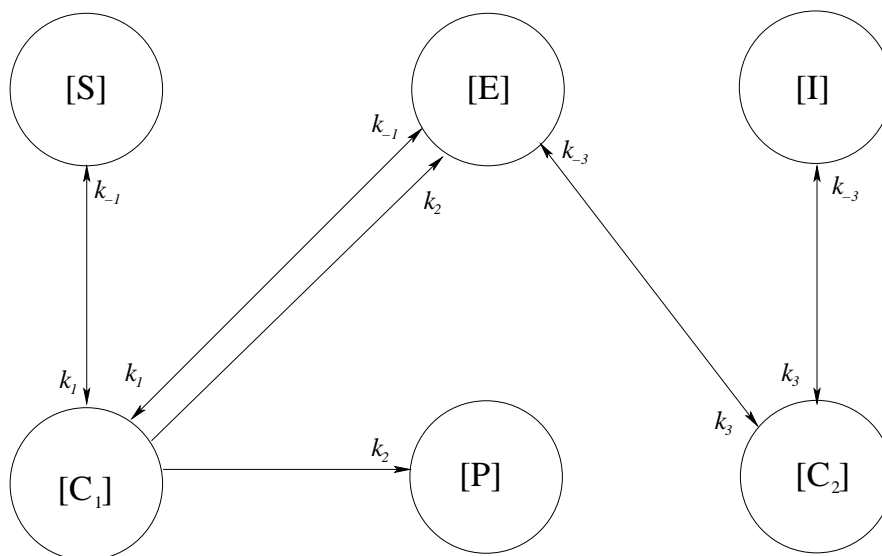

Figure 1.3 Compartment model representation of the enzyme inhibition dynamics.
1.4 Draw a graph of the compartment representation, see Fig 1.3. Next,